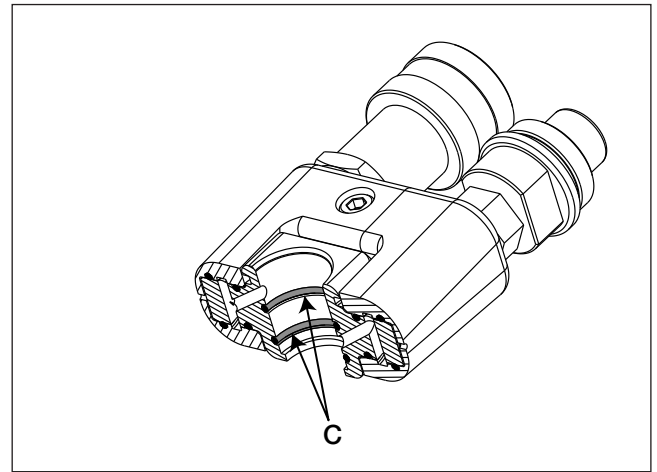

Figure 3, O-ring Installation - Swivel Manifold Block
- Install two new O-rings (C) from the kit into the grooves of the swivel manifold block. Coat the O-rings with silicone grease before installing. See Figure 3 for locations.
- After installation, coat all O-rings with a small amount of additional silicone grease. Carefully slide the new TSP swivel assembly (B) onto the swivel post (F).
- Install a new circlip retainer ring (A) from the kit onto the swivel post (F).